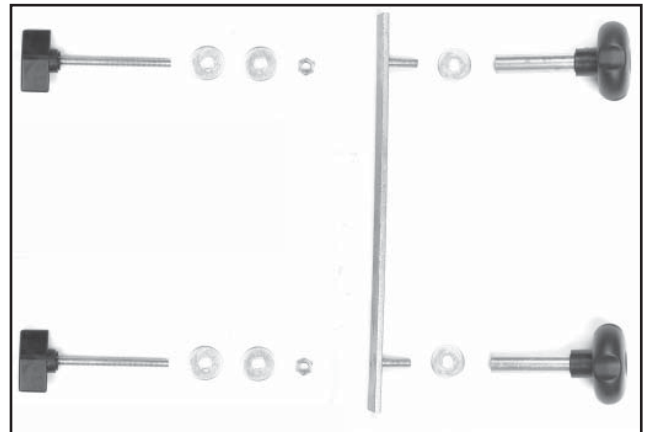

Figure 6
1. Locate the sliding table carriage mounting hardware as shown. Figure 6.